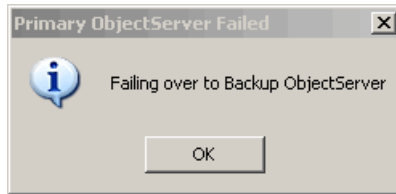

Figure 5-4 Failover
3. Wait until the desktop client connects automatically to the backup ObjectServer, as shown in Figure 5-4 on page 177.